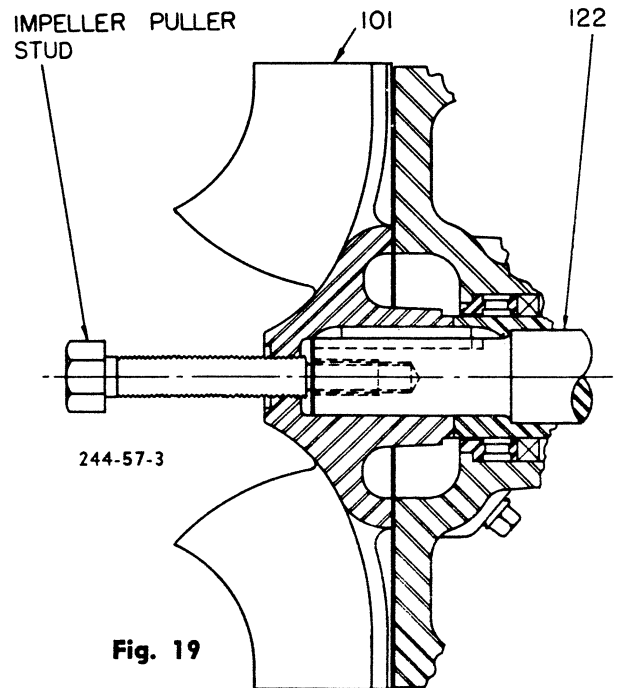

Fig. 19
9. Remove the impeller screw (198) with a socket head wrench 15/16” for Group “S” and 1” for Group “MX” across flats.
10. Remove impeller screw gasket (217) and save for reuse.
11. To remove the impeller, thread the impeller puller stud, furnished in the box of fittings, into the end of the impeller. This stud pushes against the end of the shaft and pulls the impeller as the stud is turned clockwise (Fig. 19).
12. Remove key — (impeller 178) from shaft (122).
13. Remove the two bolts which hold the gland halves (107) together and remove gland halves from sleeve.
14. Unscrew jacking bolts (418) in bearing frame flange and discharge sideplate.
15. Discharge sideplate (170) can now be pulled from bearing frame flange. Remove old stuffing box packing (106). The stuffing box bushing (125) is not locked to al-